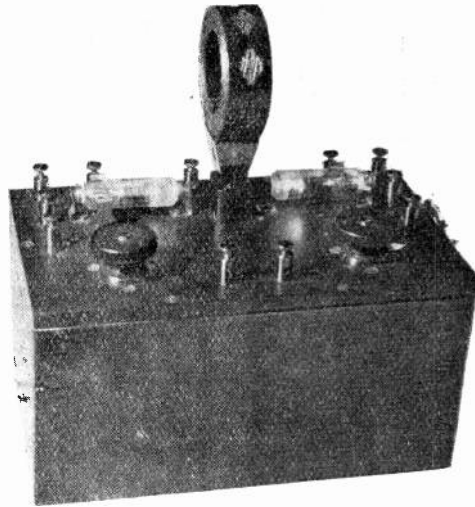

Fig. 1. General appearance of the H.F. amplifier and detector unit.
Fig 1. *The Super-Regenerative Circuit, adapted to a reaction receiver for reception of telephony. Changes required in the receiver are: (1) Substitution of battery to give a negative potential in the grid for grid condenser and grid leak; and (2) tap connected to top of secondary inductance.*
Figure 1 shows the circuit best adapted to reception of radio-telephony. The section enclosed in the box on the left shows an ordinary reaction receiver, modified only by the substitution of a grid battery and a tap at the top of the secondary of the vario-coupler. L_1 and L_2 are the primary and secondary of the tuning circuits; L_3 is the reaction coil.
Fig. 1 shows the general appearance of the
In connecting up the outfit, the aerial is taken to one terminal of the aerial tuning condenser, the other terminal of which is connected to one end of one of the inductances. This end is also taken to the terminal marked "A1." The other end of this inductance is connected to the terminal marked "A2," and also to the earth wire. In the diagrams of the valve panel, terminals were shown marked "aerial" and "earth." These were provided for subsequent use should the experimenter decide to convert the detector panel into a complete receiving tuner, in which case these terminals would be needed. To obviate the connecting of two wires under each of the terminals "A1" and "A2" internal connections may be made across between "A" and "A1," and "E" and "A2" (Fig. 1, page 455). The inductance will then remain connected on the "A1" and "A2" terminals, whilst the lead from the variable condenser will pass to terminal "A" and the earth wire will be connected to terminal "E." A similar inductance has its ends connected to the terminals marked "R1" and "R2." The H.T. and L.T. batteries, the telephones, and the insertion of the valve complete the connecting up of the set.